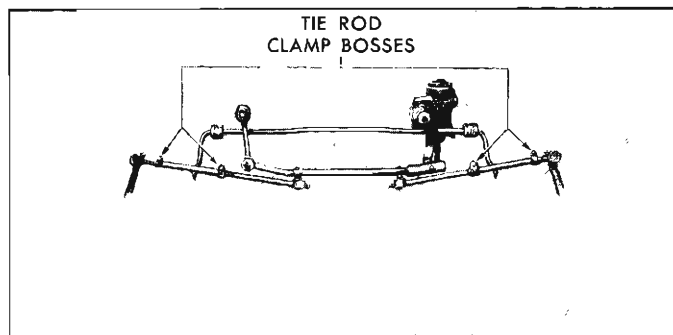

Fig. 4—Tie Rod Clamp Bosses (Two Per Side)
2. Loosen the clamp bolt at each end of each tie rod and adjust to a total of $\frac{1}{16}''$ to $\frac{1}{8}''$ toe-in (fig. 4).